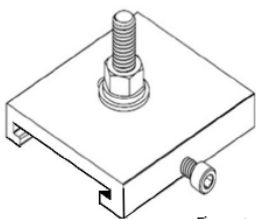

Figure 3: Tighten the Assembly
3. On top of the bolt, place in this order: (See Figure 3)